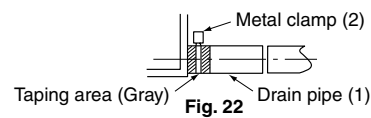
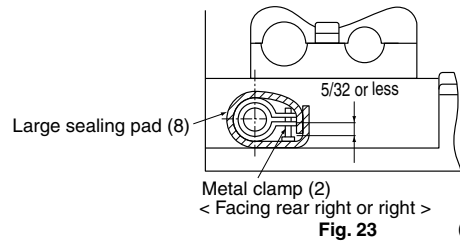

Fig. 22
Fig. 23
- Be sure to use the drain pipe (1) and metal clamp (2). Also, insert the drain pipe completely into the drain socket, and securely attach the metal clamp bracket inside the gray tape area on the inserted tip of the drain pipe. (Refer to Fig. 22) Screw the screws on the metal clamp bracket until there is 5/32 in. left. (Pay attention to the direction of the attachment to prevent the metal clamp bracket from coming into contact with the suction grille.) (Refer to Fig. 23)
- Insulate the metal clamp bracket and drain pipe from the bottom using the large sealing pad (8). (Refer to Fig. 23)
- (2) Check to make sure the water flows smoothly after piping is complete.**